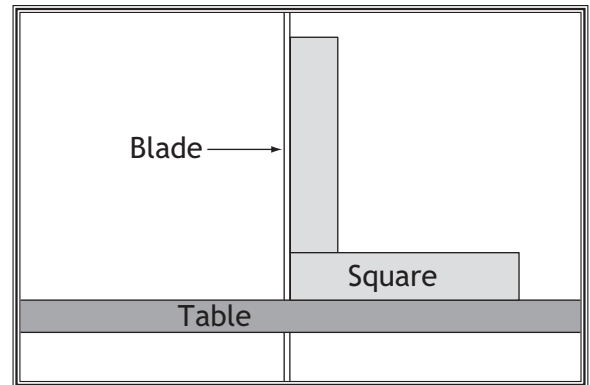

Figure 1. Squaring table to blade.
This tool is intended for use on a circuit that has an outlet that looks like the one illustrated in Sketch A in Figure 1. The tool has a grounding plug that looks like the plug illustrated in Sketch A in Figure 1. A temporary adapter, which looks like the adapter illustrated in Sketches B and C, may be used to connect this plug to a 2-pole receptacle as shown in Sketch B if a properly grounded outlet is not available. The temporary adapter should be used only until a properly grounded outlet can be installed by a qualified electrician. The green-colored rigid ear, lug, and the like, extending from the adapter must be connected to a permanent ground such as a properly grounded outlet box.
This tool is intended for use on a circuit that has an outlet that looks like the one illustrated in Sketch D in Figure 1. The tool has a grounding plug that looks like the plug illustrated in Sketch D in Figure 1. Make sure the tool is connected to an outlet having the same configuration as the plug. No adapter is available or should be used with this tool. If the tool must be reconnected for use on a different type of electric circuit, the reconnection should be made by qualified service personnel; and after reconnection, the tool should comply with all local codes and ordinances.
5. Raise the upper blade guide assembly and place a 6" machinist's square or try-square on the table next to the side of the blade as illustrated in **Figure 1**. Adjust the table stop bolt to raise or lower the table until the table is 90° to the blade.